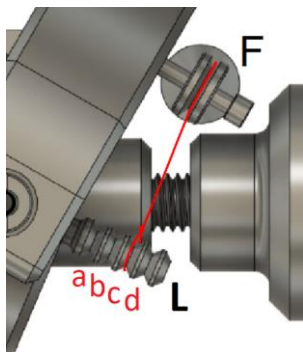

Figure 4: Top view and identification of anti skating mechanism parts.
1. Install the anti-skate weight (L – see Figure 4.) by putting the loop of the nylon string in the chosen groove on the anti-skate lever.
2. Lay the string over the black Teflon pulley (F).